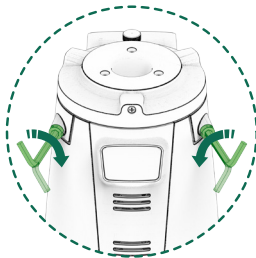

Fig. 16
12.3.11. When the grinding regulator is in place, lock the system by using a #8 Hex Allen Key into the hexagonal holes (40) and turning it in the direction shown by the icons and according to (Fig. 16) until it is in the working position.